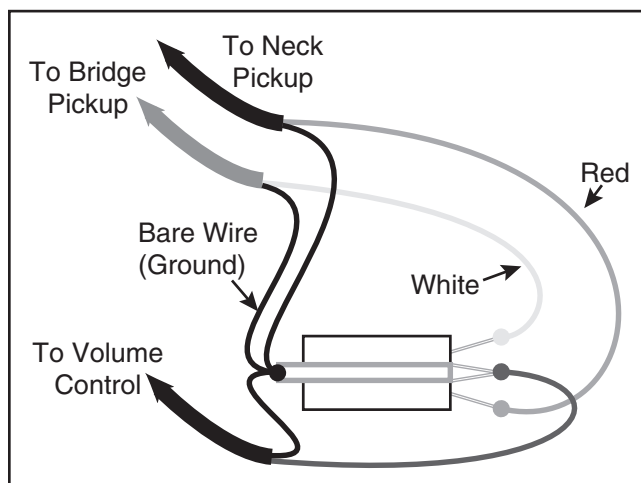

Figure 20. 3-way switch wiring.
5. Solder the pickups onto the selector switch as shown in **Figure 20**.